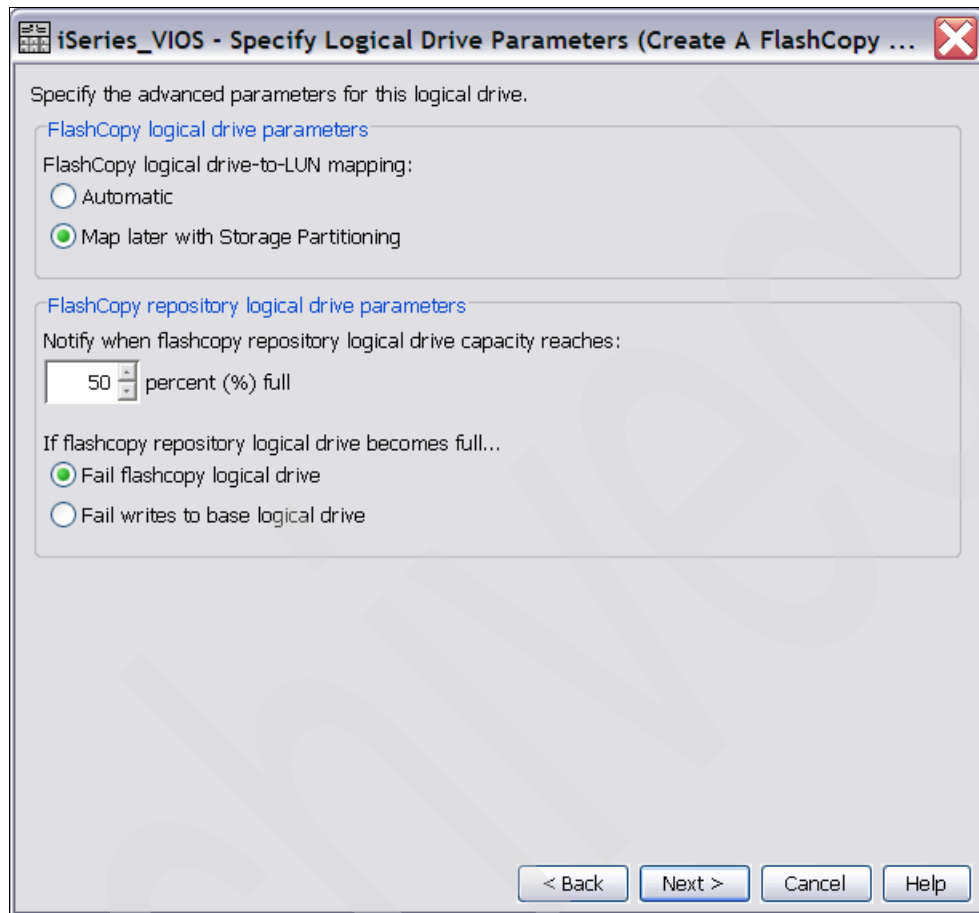

Figure 8-9 LUN mapping and threshold capacity
10. Specify whether to immediately map FlashCopy logical drives to LUNs or to map later. Specify also the threshold occupation of the repository logical drive at which the alert is sent. See Figure 8-9.